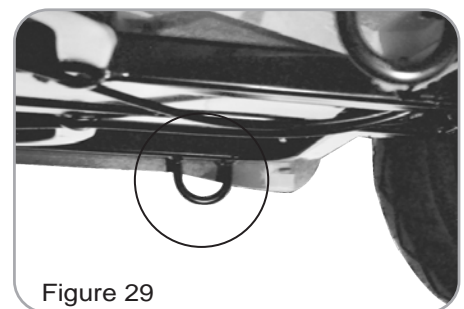

Figure 29
- Make sure the scooter is in D position when transporting. (Figure 29)